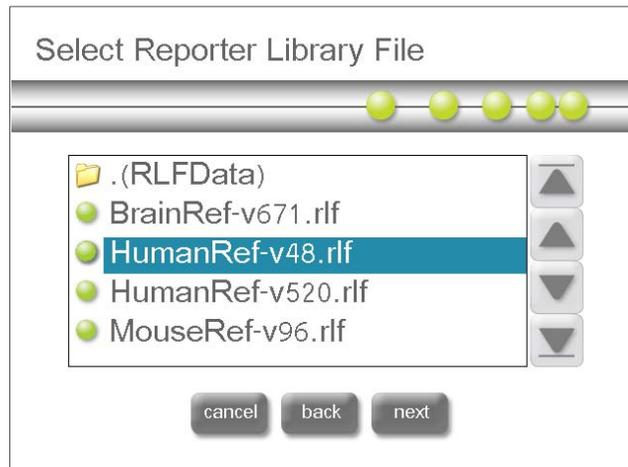

Figure 2.19 The Select Reporter Library File screen
>>> The Select Reporter Library File screen appears (Figure 2.19).
5. In the Select Reporter Library File screen (Figure 2.19), select the RLF file to use with this sample. The RLF contains the information necessary to decode the digital color coded reporter signals into their target identities.